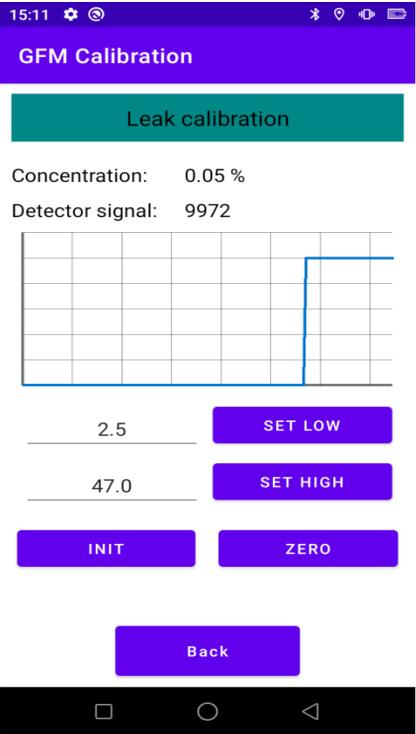

Figure 34
5. Go to the menu item Leak calibration, (Figure 34);